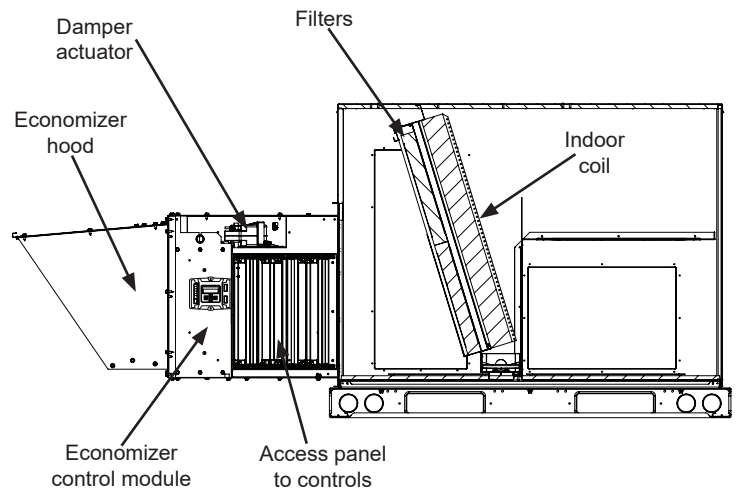
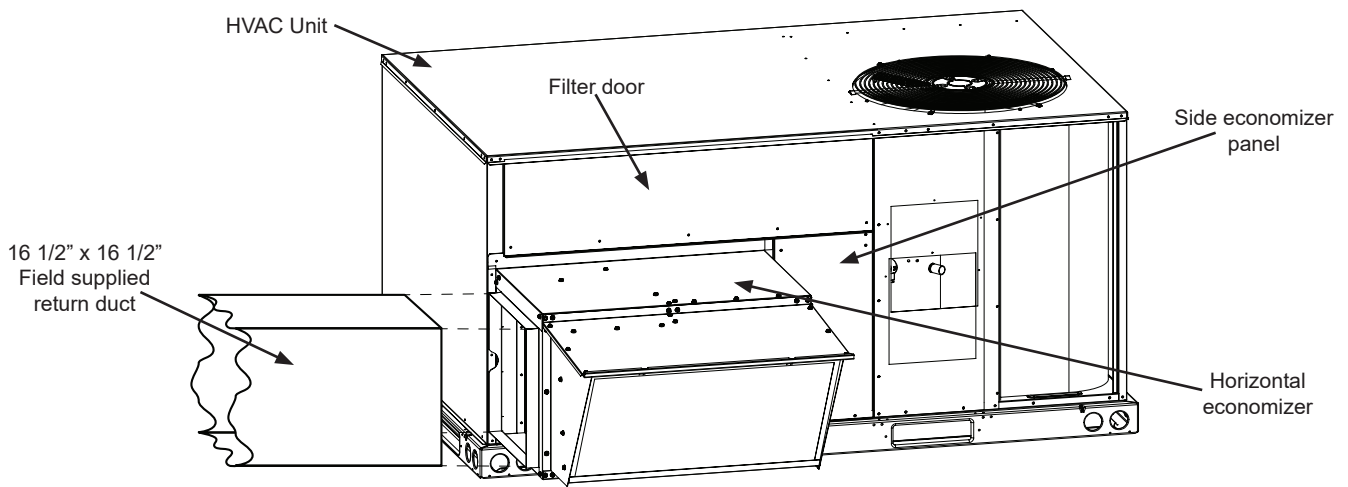

Figure 4
Figure 6
4. Install damper assembly on to unit where return chamber panel was. Economizer will sit outside of unit, and will rest on base rail. (See Fig. 4.)
5. Screw left side flange on economizer to HVAC unit using provided (3) #10-14 x 3/4" screws with washer.
6. Align the holes in the base flange of the economizer into the holes in the base rail of the HVAC unit. Secure in place using (5) #10-16 x 5/8" screws.
8. Install field supplied horizontal return duct. Return duct must be 16 1/2" x 16 1/2". Screw to economizer duct flanges. Caulk or gasket seam to ensure water tight seal. See Fig. 6.